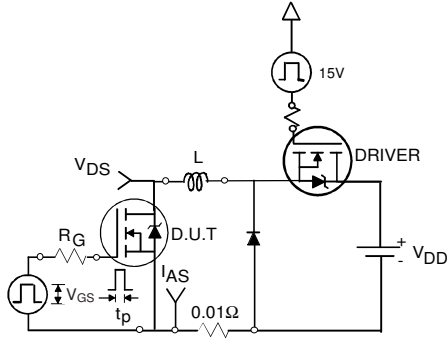

Fig 12a. Unclamped Inductive Test Circuit
| I_{AR} | Avalanche Current ① | See Fig.12a, 12b, 15, 16 | A |
3. Equation below based on circuit and waveforms shown in Figures 12a, 12b.